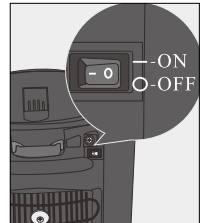

Figure 9
- To disable the heating function (Hot Water), turn off the hot water switch (Figure 9)